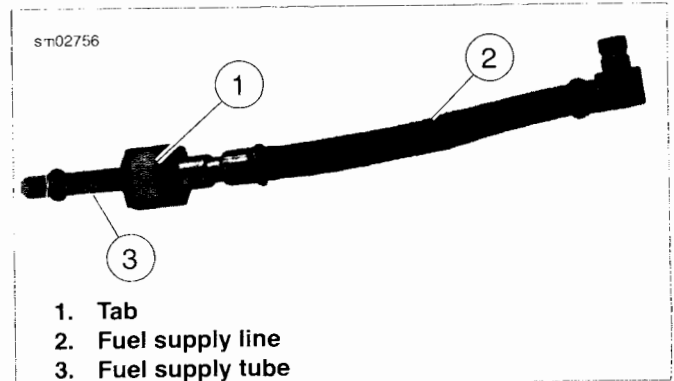

Figure 4-22. Fuel Supply Line
11. See Figure 4-22. If fuel supply line (2) is being replaced, squeeze ends of tab (1) and pull tab away from fuel supply line to release from fuel supply tube (3).
3. See Figure 4-22. Slide fuel supply line (2) onto fuel supply tube (3). Push in on tab until it locks the fuel supply line (2) on fuel supply tube (3). Tug on fuel supply line (2) to verify it is locked into place.